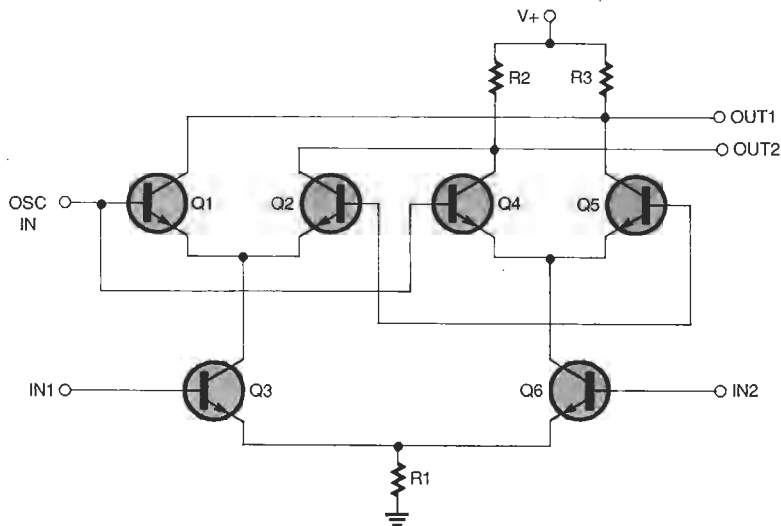

Fig. 2. The heart of the NE602: a Gilbert transconductance cell used for the double-balanced mixer.
**Heart of the NE602.** Because the NE602 contains both a DBM and a local oscillator (LO), it can be used as the entire front-end of a radio receiver. Figure 2 shows a partial view of the internal circuit of the heart of the NE602: the double-balanced mixer stage. That configuration is known as a Gilbert transconductance cell. It consists of a pair of cross-coupled differential amplifiers. One feature of the design is that it offers a very good